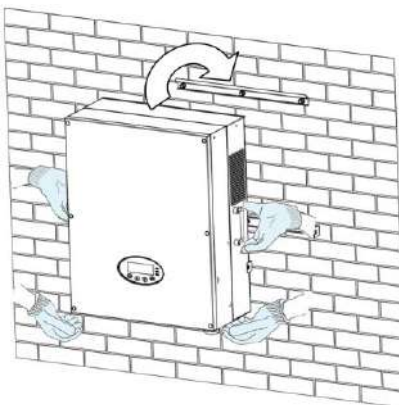

Figure 4.12 Installation of inverter
- (5) Hang the inverter onto the installation bracket and ensure the installation is firm enough. As shown in Figure 4.12.